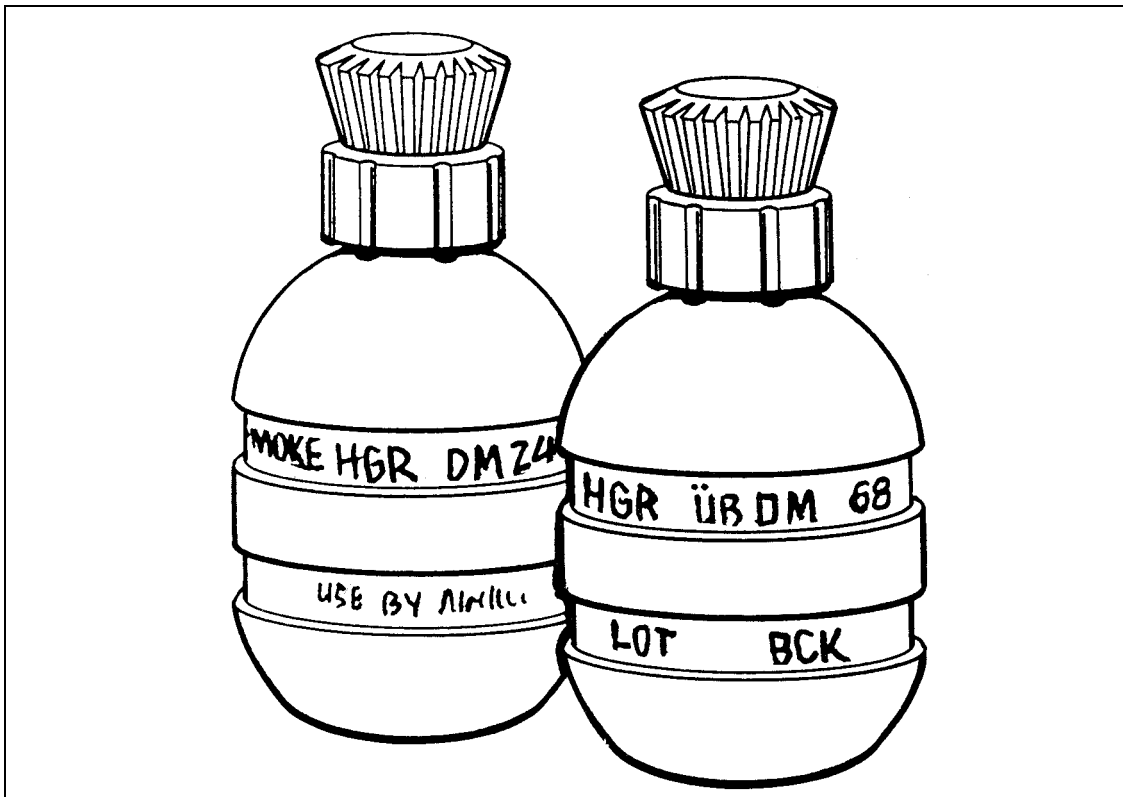

Figure F-9. DM 24/68 incendiary hand grenade.
- Type: Incendiary smoke. (Figure F-9)